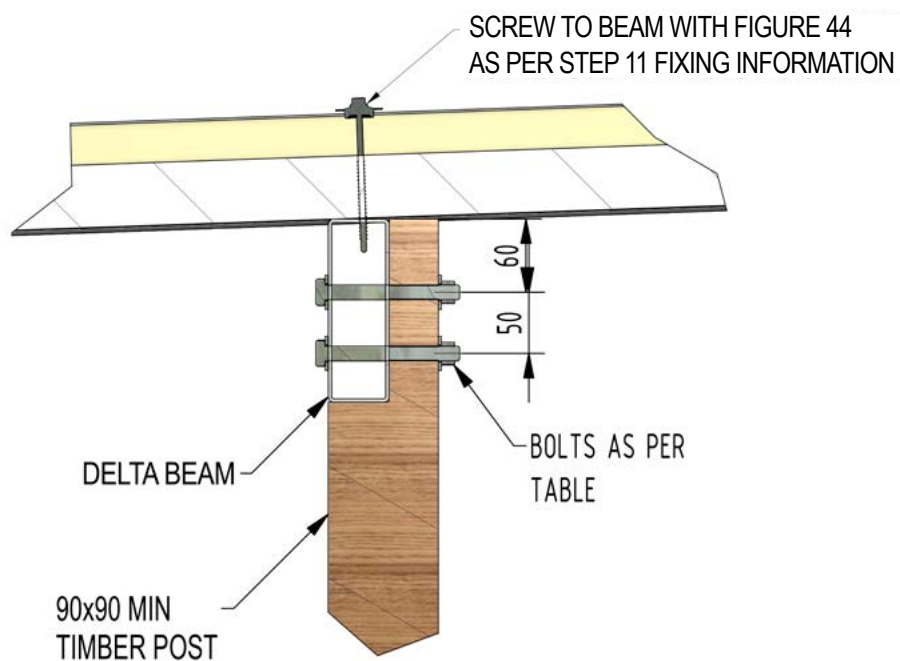

Figure A22
STEP 8**SELECT BEAM TO POST CONNECTION TYPE****Timber Post to DeltaBeam (see Figure A22)**